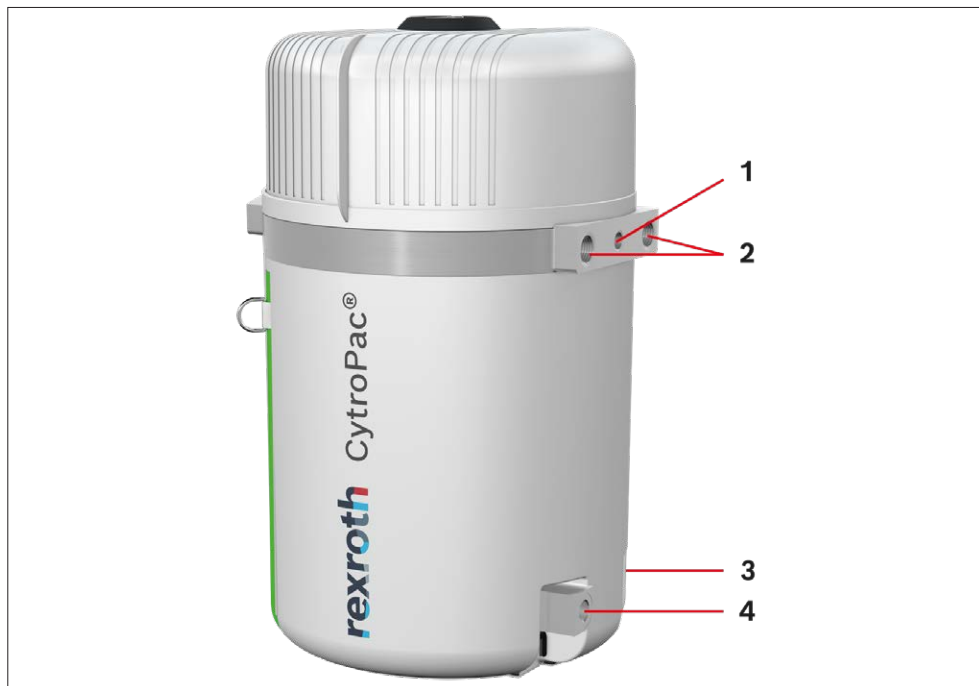

Fig. 10: Connection lines on the standard version
- ▶ Close the pressure line with a G1/2 fitting via pressure port P: G1/2, see Fig. 10, item 4.
- ▶ Connect the return line via the return flow filter to the oil tank connection T: G1/2, see Fig. 10, item 1.
- ▶ Optionally, you can use the non-return oil tank connections T: G1, see Fig. 10, item 2 and item 3, e.g. for a rotary transmission leadthrough.
Hydraulic power units, which have been ordered as version with option A1, have an additional oil tank connection T: G1, see Fig. 10, item 3. This oil tank connection is located next to pressure port P and is delivered closed with a plug screw including centering ring.